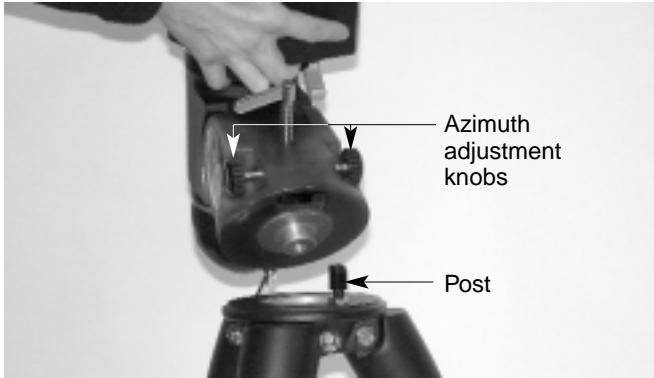

Figure 2. Orient the equatorial head so that the post on the tripod lines up with the azimuth adjustment knobs on the equatorial mount.
2. Place the base of the equatorial mount onto the tripod head. Orient the equatorial mount so that the post on the tripod head lines up with the azimuth adjustment knobs on the equatorial mount (Figure 2). You may need to loosen the azimuth adjustment knobs on the equatorial mount in order to fit the mount onto the tripod head.
5. Now use the azimuth adjustment knobs (Figure 2) and the latitude adjustment L-bolts (Figure 5) on the mount to position the star Polaris inside the tiny circle marked "Polaris" on the finder's reticle. You must first loosen the knob underneath the equatorial mount on the center support shaft to use the azimuth adjustment knobs. Once Polaris is properly positioned within the reticle, you are precisely polar aligned. Retighten the knob underneath the equatorial mount.